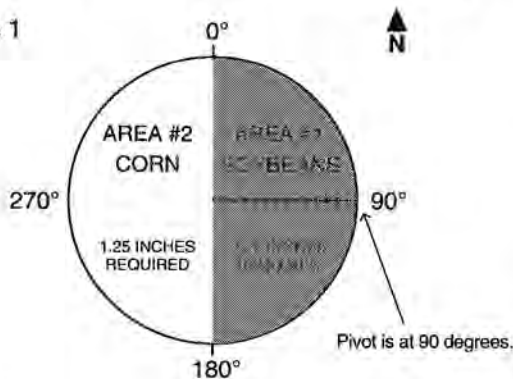
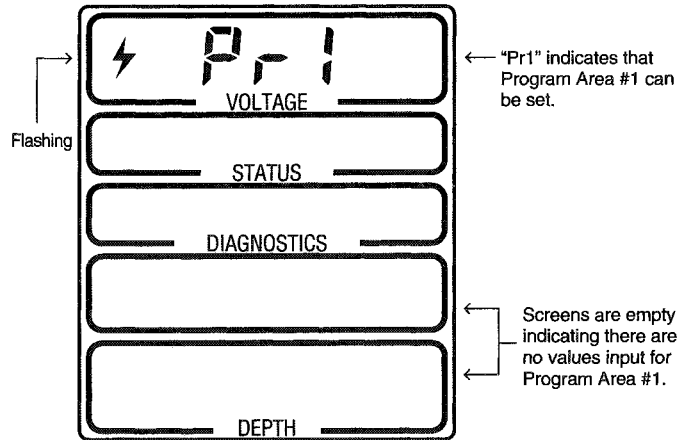

Figure 2.23
Figure 2.25
Figure 2.23 illustrates a typical example of how the Select Panel can be used to change water application depths for two different crops (corn and soybeans).
2. Press the SELECT button to save the on/off setting selected in step #1. The screen in figure 2.25 will be displayed.
Notice that in figure 2.25, "Pr1" is displayed in the top screen. This indicates that the operator is now ready to set up area # 1 of the field as illustrated in figure 2.23. The Select Panel allows a total of 6 areas which can be programmed and are identified as ; Pr1, Pr2, Pr3, Pr4, Pr5 and Pr6. Each area will consist of 3 steps: